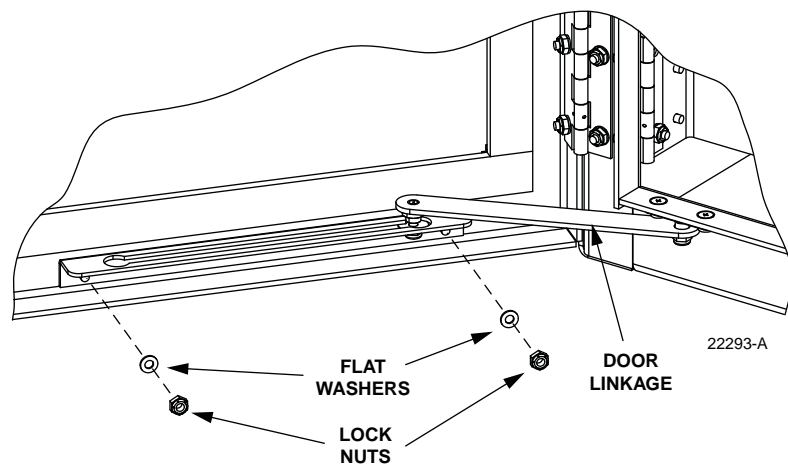

Figure 42. Door Linkage Hardware
2. Use a 3/8-inch nut driver and wrench to remove the locking nuts and washers that secure the door bracket slide to the bottom edge of the door as shown in Figure 42. Save the nuts and washers for reuse.